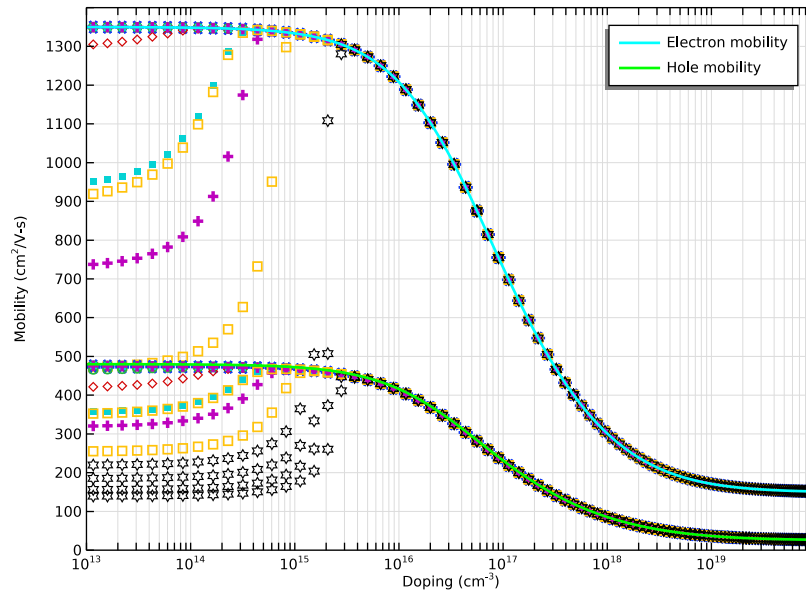

Fig. 2B Velocity vs. Electric Field
2 In the **Settings** window for **ID Plot Group**, type Fig. 2B Velocity vs. Electric Field in the **Label** text field.
- 1 In the **Model Builder** window, expand the **Fig. 2B Velocity vs. Electric Field** node, then click **Line Graph 1**.
- 1 In the **Model Builder** window, under **Results>Fig. 2B Velocity vs. Electric Field** click **Line Graph 3**.
- 9 In the **Fig. 2B Velocity vs. Electric Field** toolbar, click  **Plot**.